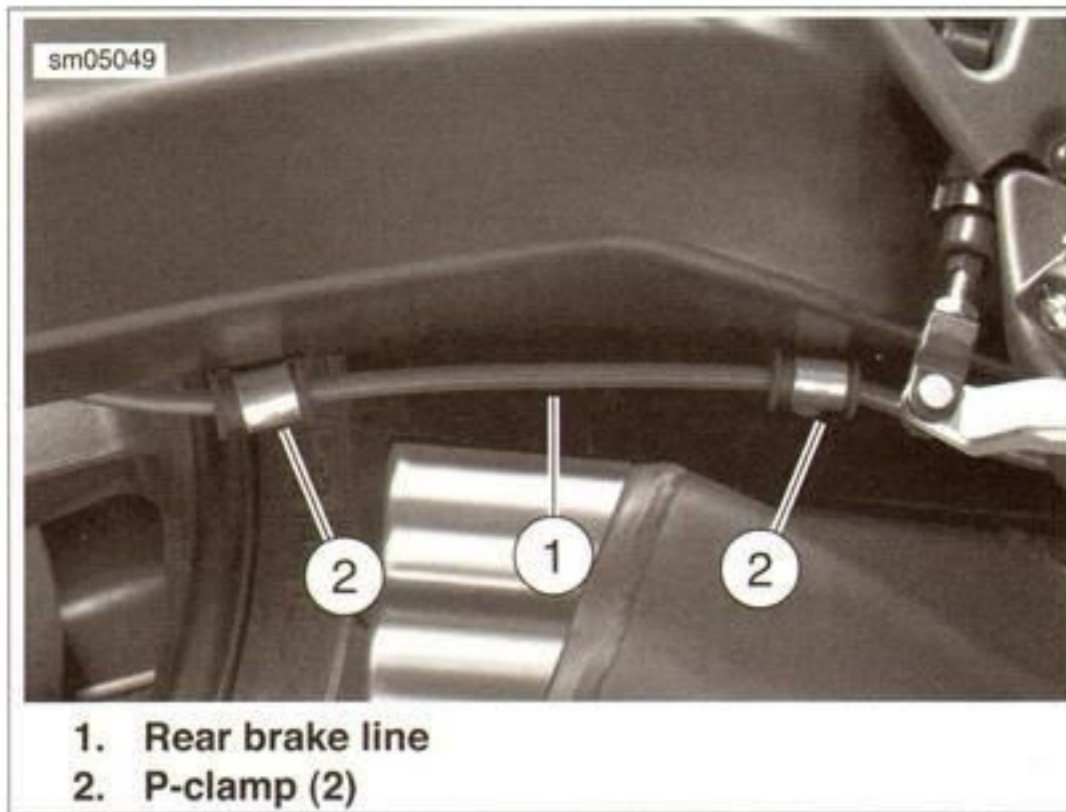

Figure 2-76. Rear Brake Line
4. See Figure 2-76. Remove P-clamps securing brake fluid line beneath the right side of swingarm.